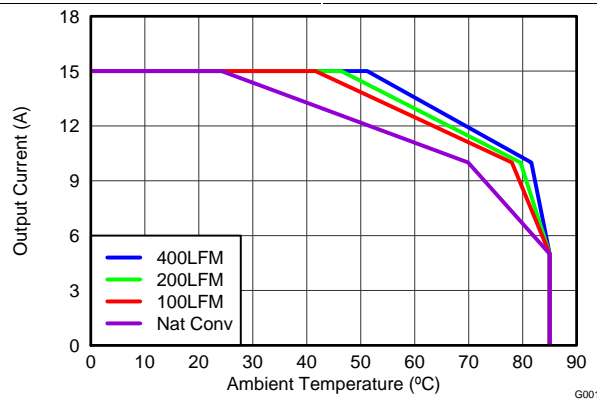

Figure 3. Safe Operating Area – PCB Horizontal Mount
The SOA curves in the CSD87333Q3D data sheet provides guidance on the temperature boundaries within an operating system by incorporating the thermal resistance and system power loss. Figure 3 to Figure 5 outline the temperature and airflow conditions required for a given load current. The area under the curve dictates the safe operating area. All the curves are based on measurements made on a PCB design with dimensions of 4 inches (W) × 3.5 inches (L) × 0.062 inches (T) and 6 copper layers of 1 oz. copper thickness.